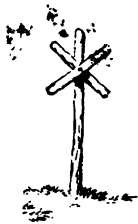

Fig. 1.
Wooden Crosses.—A simple structure like fig. 1 is put together with a single nail or any kind of lashing. It catches the attention immediately.
1. Let P (fig. 1) be the point where the traveller finds himself at fault, and let P D be a distance within which the path certainly lies; then the circle, D E F, somewhere cuts the path, and the traveller starting from P must first go to D, and then make the entire circuit, D E H F D, before he has exhausted his search. This distance of P D + D E H F D = P D + 6 P D nearly, = 7 P D altogether, which gives the length of road that the man must be prepared to travel over who can answer no other than the question A. Of course, P D may cut the path, but I am speaking of the *extreme* distance which the lost man may have to travel.